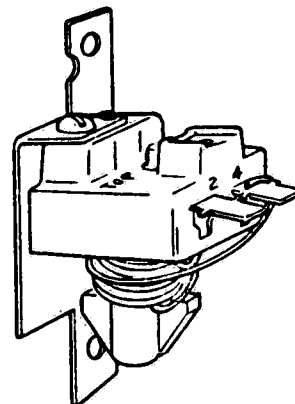

Figure 9-1. Starter Relay.
The Hobart relay (7) is a gravity type which must be positioned properly, otherwise it will burn out a motor. When replacing this relay, install it with the winding at the bottom (see Fig. 9-1).